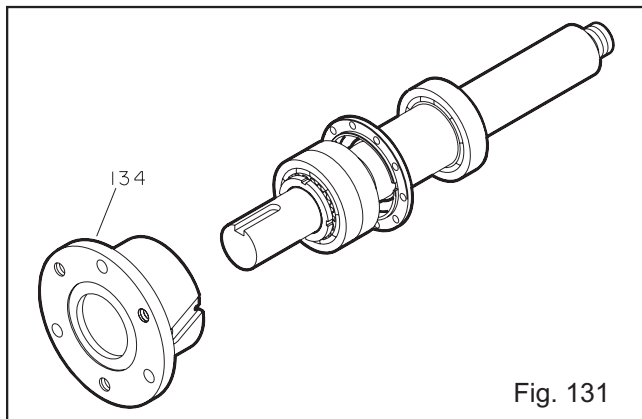

Fig. 131
13. Coat outside of bearing housing (134) with oil.
15. Install shaft assembly into frame (228A), making sure to leave approximately 0.125 in. (3.175 mm) clearance between the face of the bearing housing and bearing frame. Check shaft for free turning (Fig. 131).